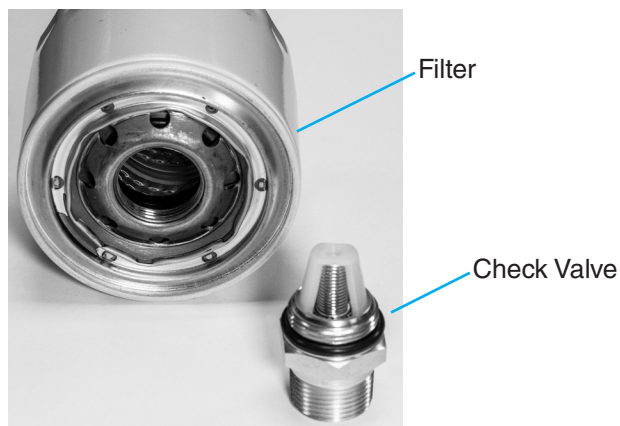

Figure 5-5-26 Breather Assembly
5. Remove the check valves. Discard the old filters in accordance with local regulations. See Figure 5-5-26.